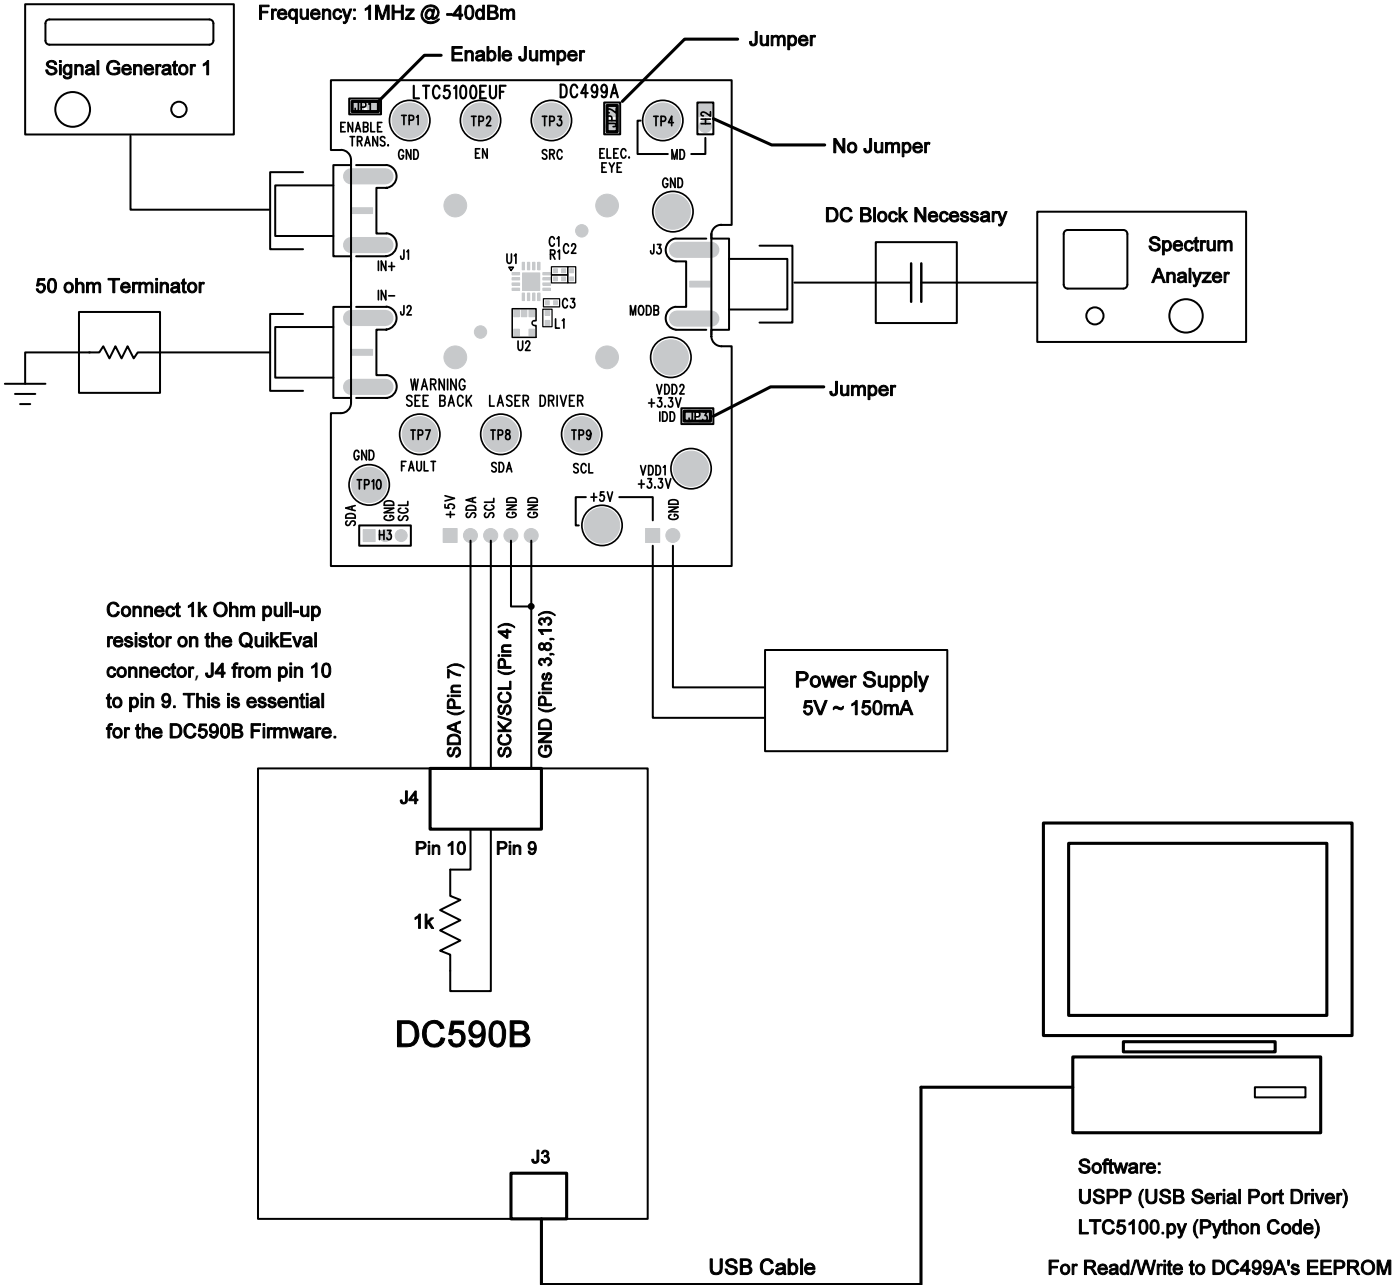

Figure 1. LTC5100 Test and Measurement Setup
1. Connect the DC499A demo board as shown in Figure 1. Make sure all jumpers are configured as shown. Initially, do not apply RF power or DC voltage to the demo board.